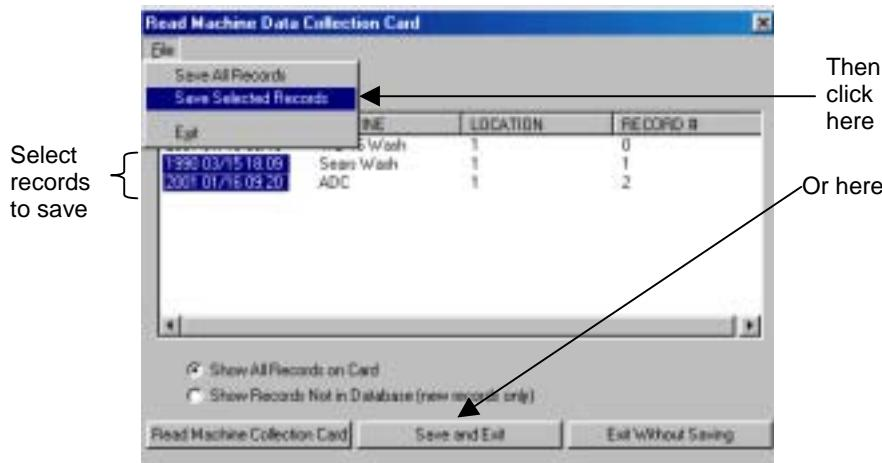

Figure 8.36 Saving the Collection Records
4. The Read Machine Data Collection Card window will open and list all the User data collections on the card. Select which records to save. Select the Save Selected Records from the File drop-down menu or click the Save and Exit button to save all records (Figure 8.36).